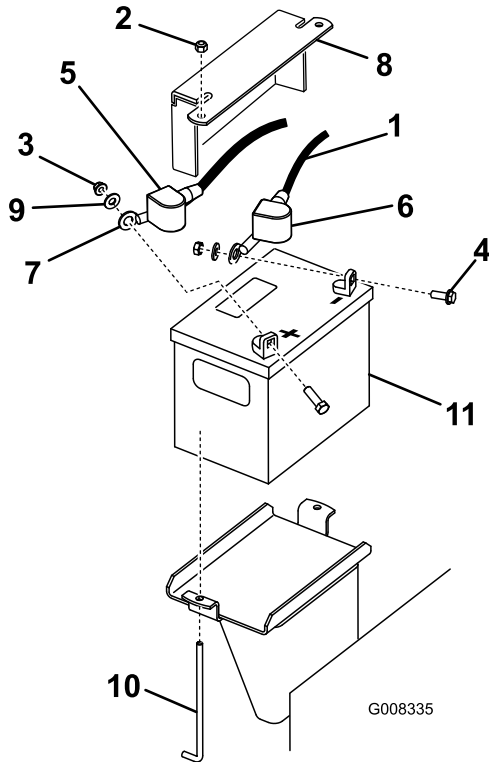

Figure 40
- Lift the black rubber cover on the negative cable. Disconnect the negative battery cable from the negative (-) battery terminal (Figure 40).
- Slide the red terminal boot off the positive (red) battery terminal. Then remove the positive (red) battery cable (Figure 40).
- Remove the hold-down plate, J-bolts, and locknuts securing the battery (Figure 40). Remove the battery.
1. Using the fasteners previously removed, install the positive (red) battery cable to the positive (+) battery terminal (Figure 40).
3. Using the fasteners previously removed, install the negative (black) battery cable to the negative (-) battery terminal (Figure 40).
4. Secure the battery using the bar and wing nuts (Figure 40).